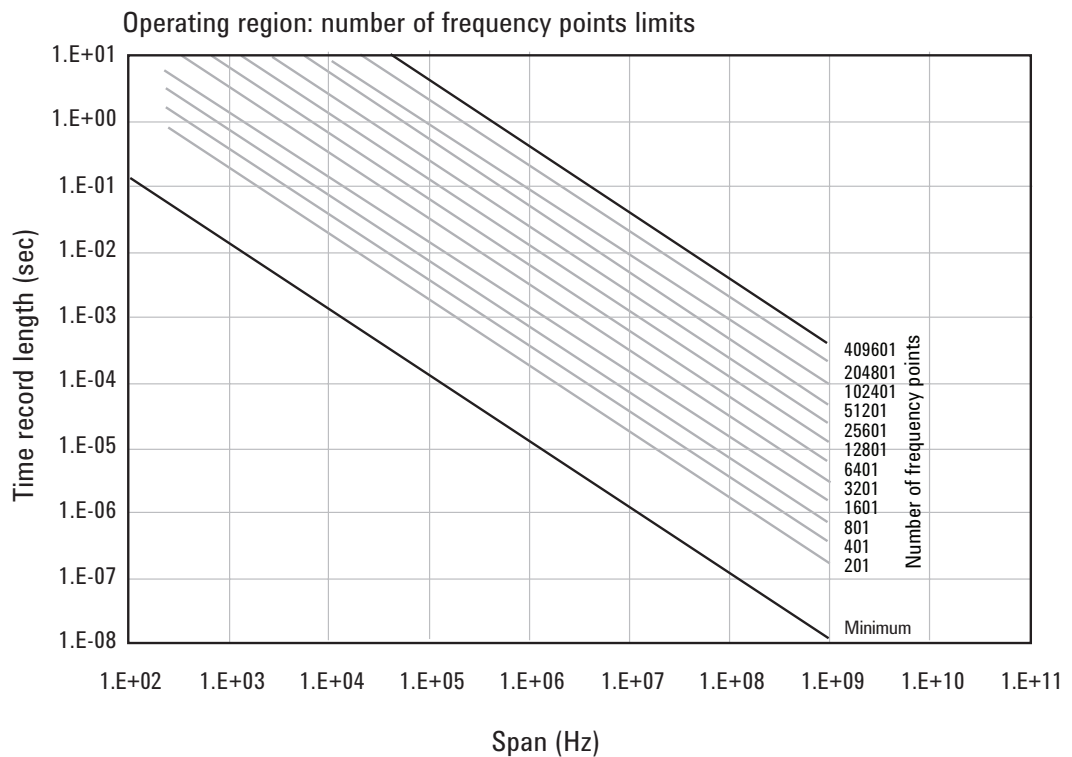

Figure 3. The user-settable parameter, frequency points, begins to determine the boundaries of the time record length and frequency span operating region.
The operating region is described in terms of span and time record length. For a given window type it could just as easily be described in terms of span and RBW. Figure 3 shows the effects of the number of time points the 89600 VSA software is allowed to collect. Because sample spacing is inversely proportional to span, the record length decreases as span increases. Although a family of lines is shown, only two define the operating region at any one time. The lowest line gives the smallest time record length allowed for any given span. The position of this line is determined by minimum number of time points (16) the 89600 VSA software requires in a time record. The line that defines the upper time record length boundary is positioned by the maximum number of time points the 89600 VSA software allows in a time record. The maximum number of time points is determined by the **Frequency Points** setting (**MeasSetup>ResBW>Frequency Points**). The 89600 VSA software is constrained to operate in the region between these two lines. Note that the operating lines of Figure 3 are the same for all Infiniium models.